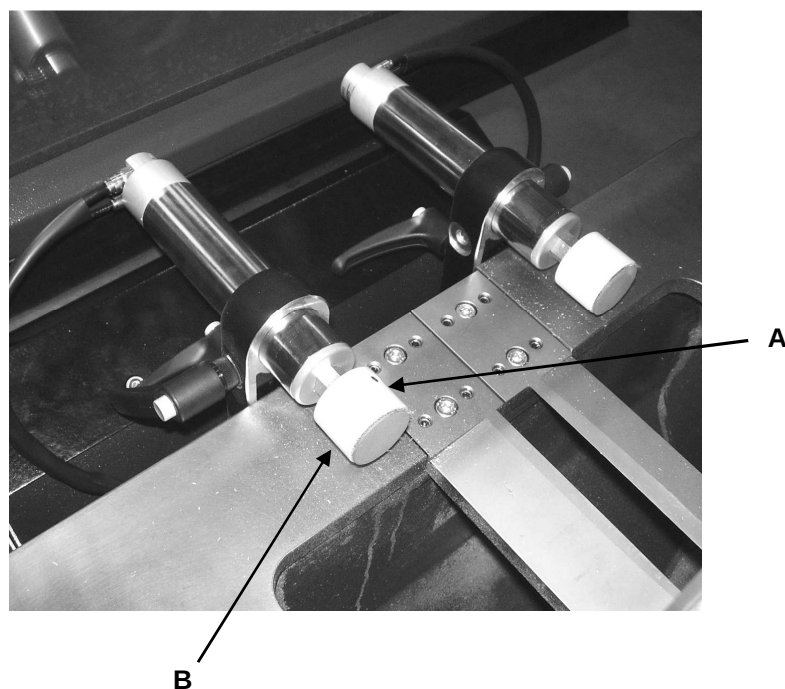

Fig. 10-07
10.3 SUBSTITUTION DES TAMPONS “PVC” DES ETAUX (FIG. 10-07)